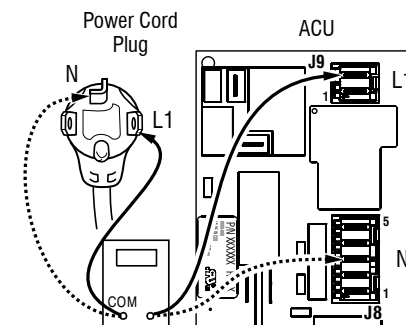

Figure 5 - Plug-to-terminal connections for electric dryer
- With an ohmmeter, check the continuity from L1 and N plug terminals of the power cord to the terminals for L1 and N on the ACU. See figure 5.